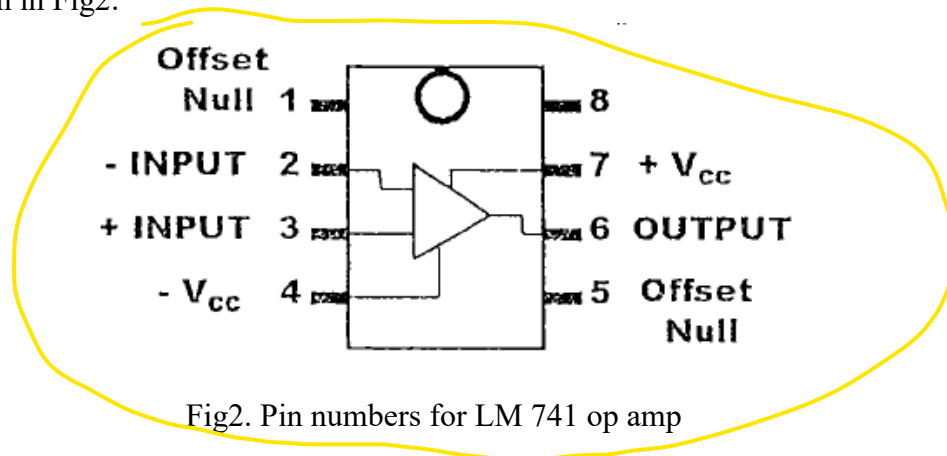

Fig2. Pin numbers for LM 741 op amp
Accordingly, for LM741 op amp chip you see in reality, the pin numbers are shown in Fig2:
1. Build the circuit according to the figure below. (You may want to refer to Fig.2). $R_F = 100\ \Omega$, $R_A = 50\ \Omega$.
- Build the circuit according to the figure below. (You may want to refer to Fig.2). $R_F=100\Omega$, $R_A=50\Omega$.